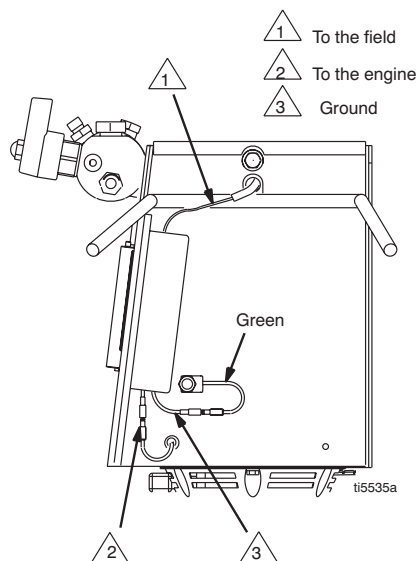

FIG. 11
2. FIG. 11. Disconnect all necessary wiring.
3. FIG. 11. Connect all necessary wiring.